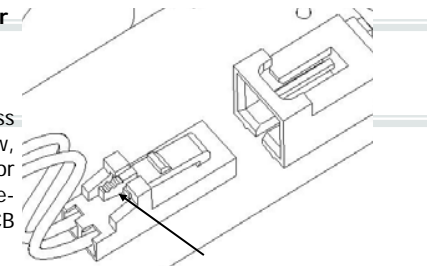

FIG 3
3. Disconnect the oxygen sensor: Press down on the latch arm, see arrow, and pull back on the male connector attached to the sensor from the female connector attached to the PCB Assembly, FIG 3.